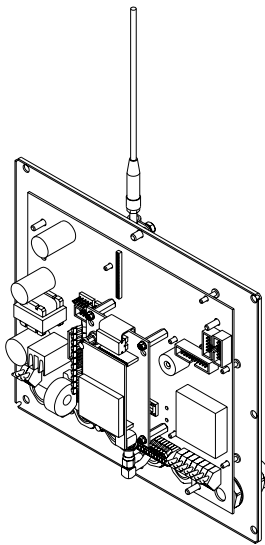

Figure 10-26: 560/660 Series Antenna
8. Fasten the RF module to the standoffs with the (4) lock nuts (38-21-1640).
9. Reinstall the back panel to the front enclosure with the screws that were taken off in step 2. Do not install the left center screw. This will be used for fastening the antenna to the indicator in step 11. See Figure 10-26 for illustration.